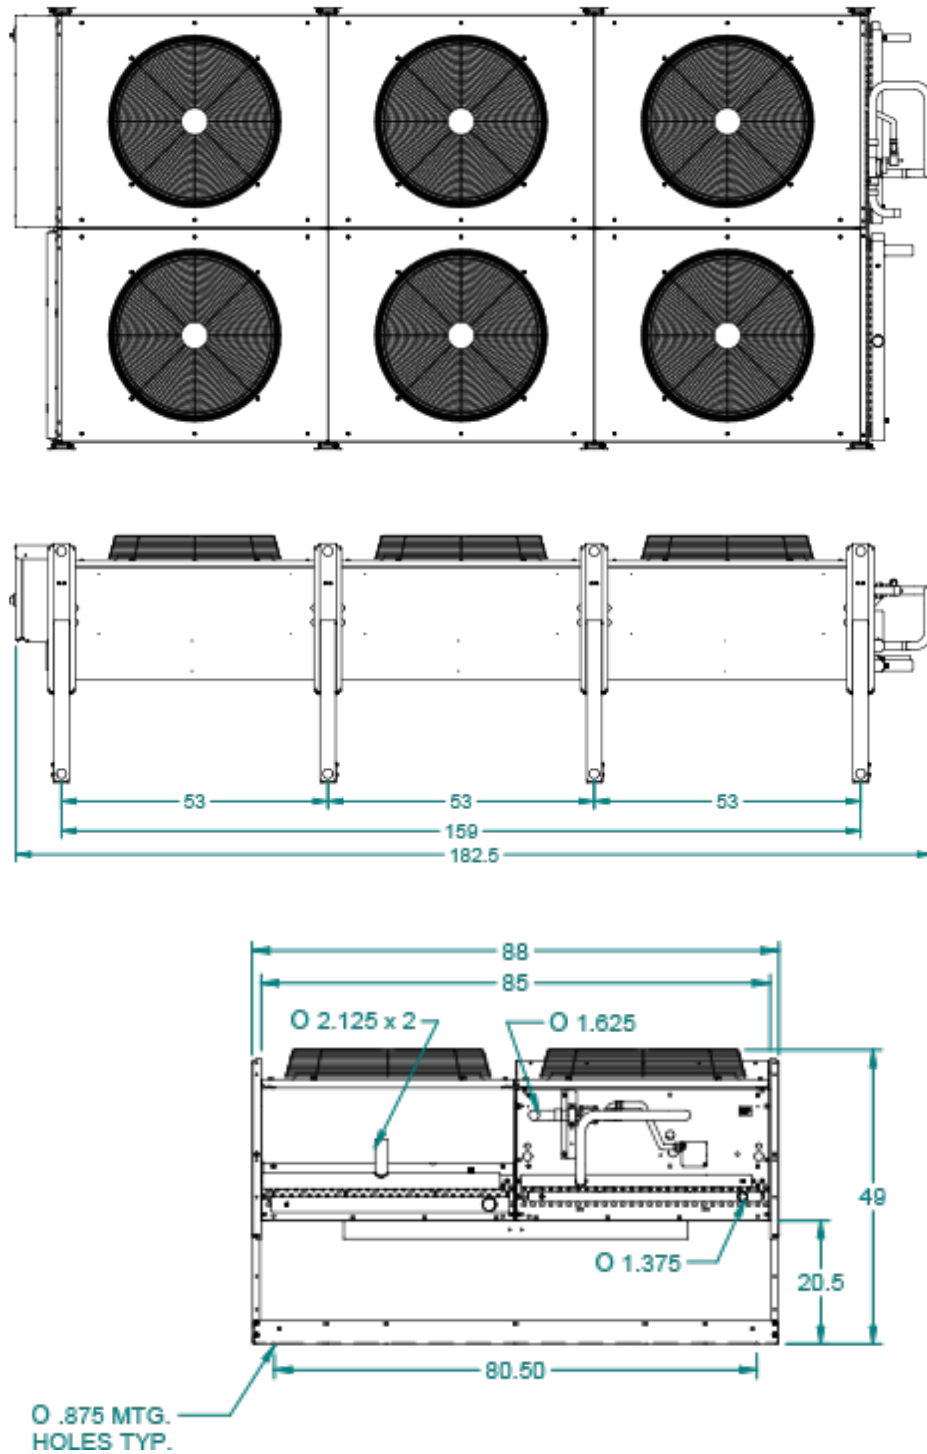

Figure 14: Condenser Dimensions
- 9. Use only ACR grade copper pipe, Type L. Table 4 has recommended line sizes. Figure 14 shows a typical condenser.